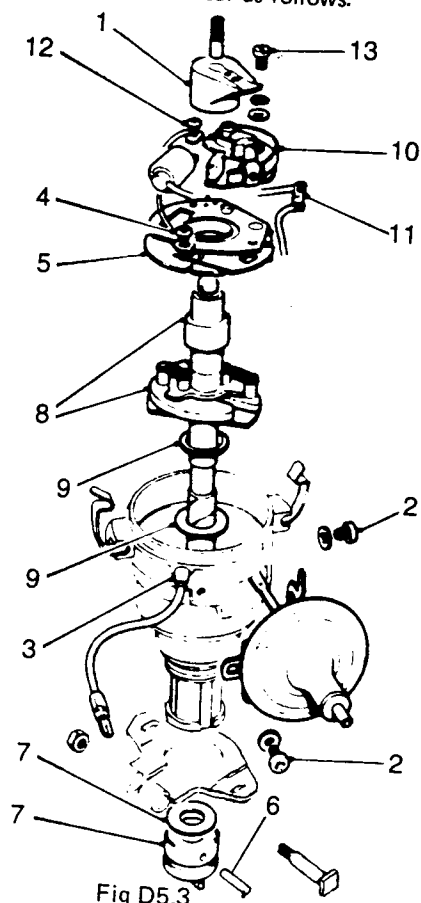

Fig D5.3
- (1) Refer to Fig D5.3. Replace the fixed contact assembly and secure with the screw (13), spring and plain washers.
- (2) Refit the capacitor and earth lead tag. Secure with the fixing screw (12).
- (3) Push the moving contact spring (10) towards the centre and clip in the low tension lead (11). Do not take up the slack at this stage.
- (4) Refit the nylon spacer and steel washer (9) to the spindle.
- (5) Replace the centre spindle complete with the automatic advance weights and springs (8). During reassembly grease the pivots of the weights and springs and the spindle bearing area with Rocol MP (Molypad).
- (6) Replace the drive dog and thrust washer (7) with the raised pips on the washer facing the dog. If a new drive spindle is fitted, tap the drive end of the distributor dog to flatten the 'pips' on the dog washer and ensure the correct amount of end float.
- (7) Secure the drive dog with the parallel pin (6).
- (8) Refit the base and bearing plate assembly (5). Ensure the base plate is pressed against the register in the body of the distributor so that the chamfered edge engages the undercut.